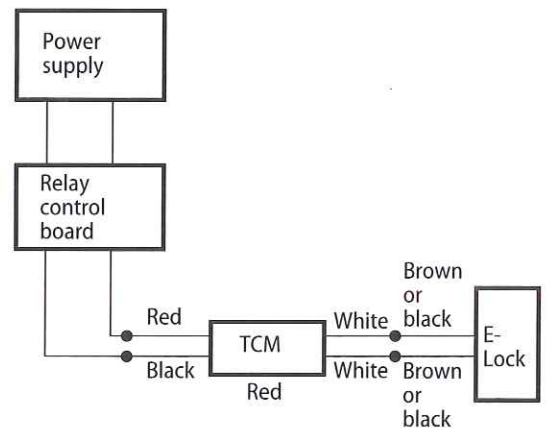

Figure 2 Wiring diagram for TCM
- 3 Connect the red (+) and black (-) wires of the new style TCM to the relay control board or other power source using the appropriate connector. See Figure 2.